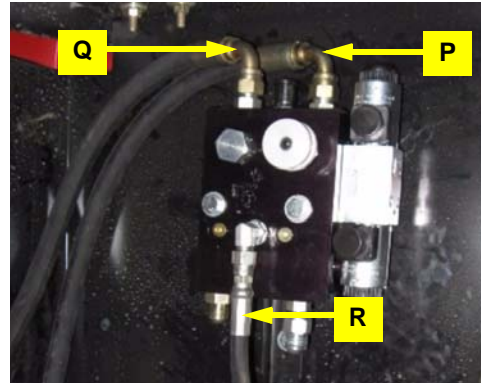

Figure 5a: Installed pressure, tank and load sense hoses at steering block
- a. Install the pressure hose **P** between the **P** port of the hydraulic steering block and the run tee **I** installed at the hydraulic divider valve (Figures 5a and 5b).
- b. Install the tank hose **Q** between the **T** port of the hydraulic steering block and the run tee **G** installed at the hydraulic divider valve (Figures 5a and 5b).
- c. Install the load sense hose **R** between the **LS** port on the hydraulic steering block to the fitting **K** on the load sense shuttle (Figures 5a and 5c).